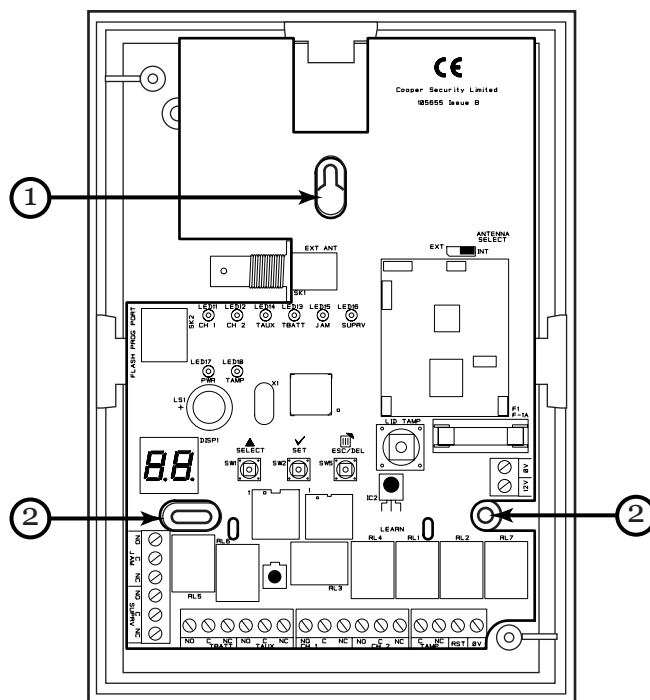

Figure 4. Mounting Hole Positions
3. Hold the case against the wall and mark the position of the key hole (1 on Figure 4).
6. Mark the position of the other fixing holes onto the wall (2 on Figure 4).